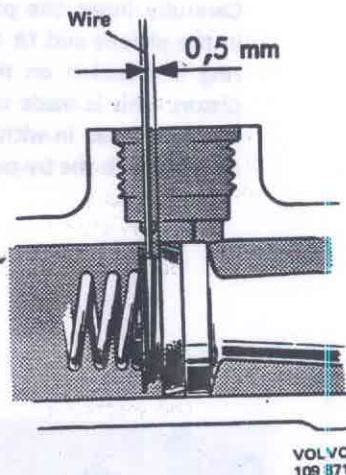

Fig. 52-20. Checking equalizing holes
5. Check the travel of the pistons and make sure that the through-flow holes are not blocked. Check the equalizing holes by inserting a soft copper wire with diameter 0.5 mm (1/64"), compare Fig. 52-20. If an equalizing hole is blocked, then generally the master cylinder has been incorrectly assembled.